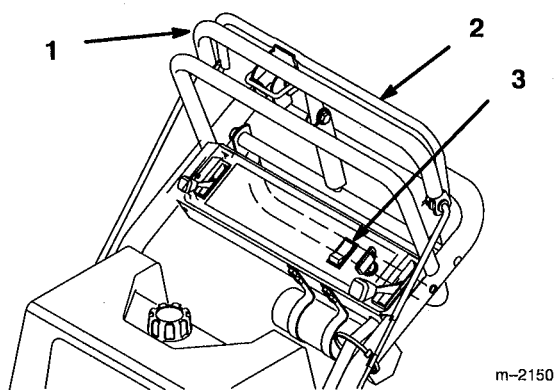

Figure 19
1. Pull on the upper control bar to stop the machine (Fig. 19).
1. Releasing blade control bail to disengage blades (PTO) (Fig. 19).
2. Or push the blade control switch (PTO) to the "OFF" position (Fig. 19).